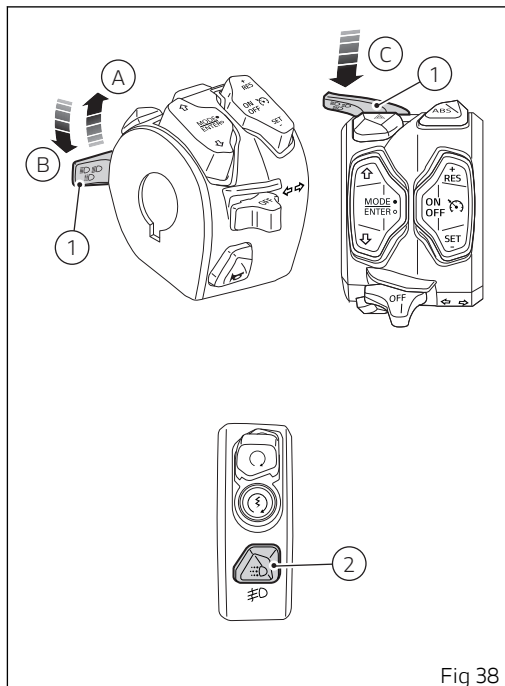

Fig 38
When the DRL are set to "Auto" mode, the corresponding warning light (16, Fig 60) will turn on. By pressing button (2, Fig 38) DRL are turned off; by pressing again button (2, Fig 38) DRL turn on with control strategy set to "Manual".
If DRL have been set in "Manual" mode (see page 213), to turn off or on the DRL, use button (2, Fig 38). When the DRL are set to "Manual" mode, the corresponding warning light (17, Fig 60) will turn on.
- if DRL are present, press and hold button (2, Fig 38) for a long time;
- if DRL are not present, press button (2, Fig 38).